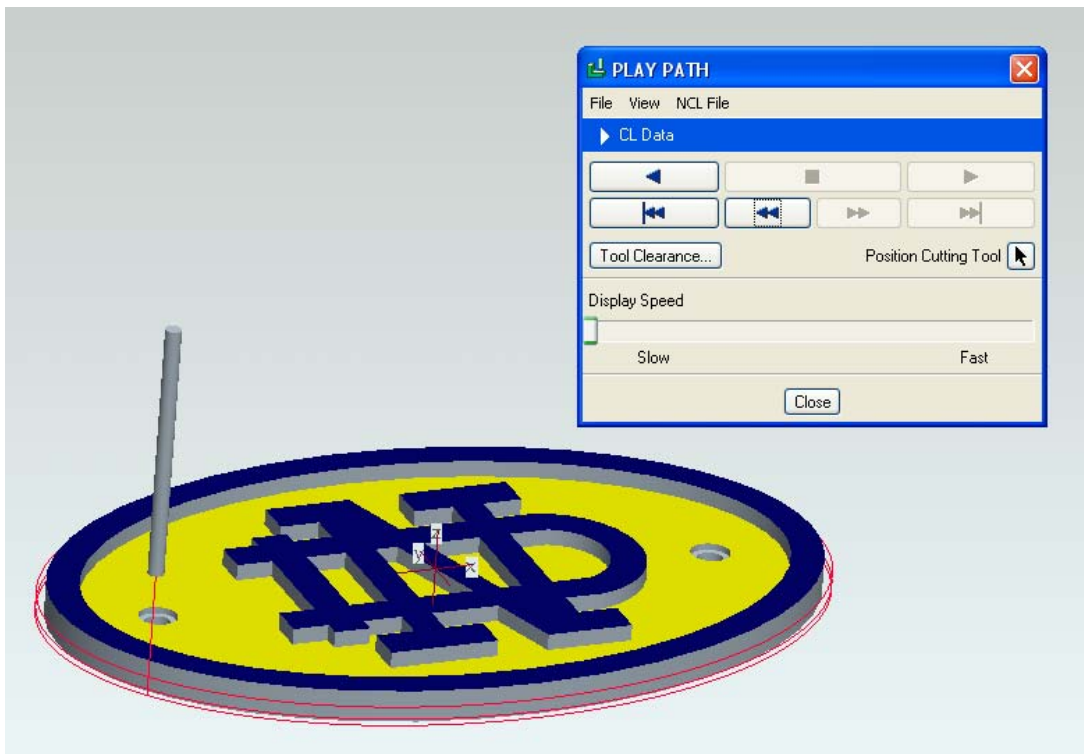

Figure 15: Toolpath for profiling around the logo part.
- Step 12:** Choose PLAYPATH << SCREENPLAY and see that the tool profiles around the edges selected (Figure 15).